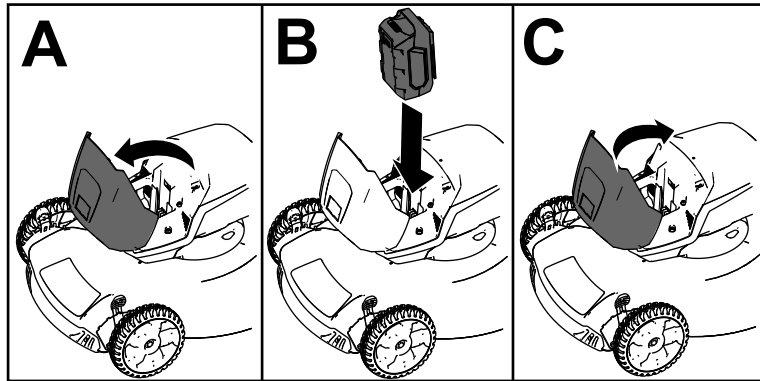

Figure 12
2. Lift up the battery-compartment lid (A of Figure 12).
3. Line up the cavity in the battery pack with the tongue on the machine and slide the battery pack into the compartment until it locks into place (B of Figure 12).
4. Close the battery-compartment lid (C of Figure 12).